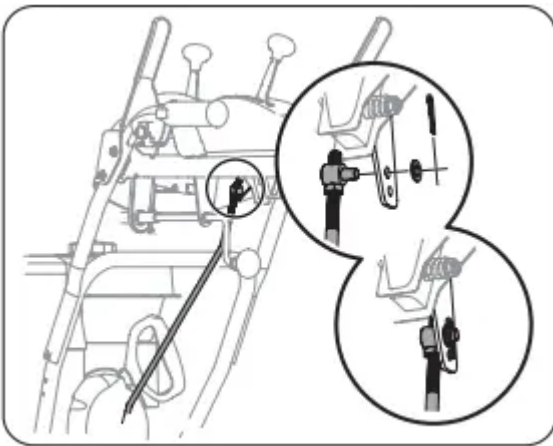

Figure 31
- Remove cotter pin and washer from ferrule on end of shift rod. See “Figure 31” inset.
- Insert ferrule into top hole of shift lever and secure with cotter pin (a) and washer (b) removed in Step 8. See Figure 31. Ferrule may need to be adjusted up or down.